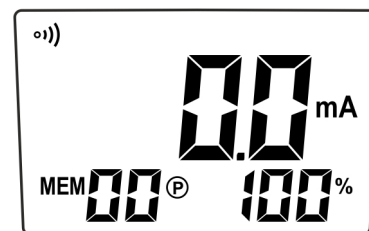

Fig. 24
2. The instrument displays the message “**OL Ω**” as it automatically sets for resistance measurement. Shortly press the multifunction key **▲A** to enter current measuring mode. The screen in Fig. 24 is displayed.